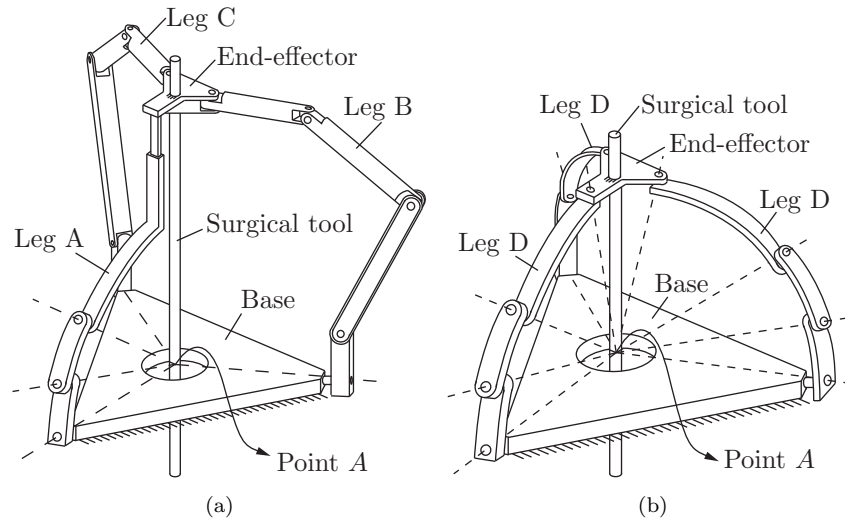

Figure 2.26: Surgical manipulator.
Exercise 2.17 Figure 2.26 shows a parallel robot used for surgical applications. As shown in Figure 2.26(a), leg A is an RRRP chain, while legs B and C are RRRUR chains. A surgical tool is rigidly attached to the end-effector.
- Use Grübler's formula to find the number of degrees of freedom of the mechanism in Figure 2.26(a).
- Now suppose that the surgical tool must always pass through point A in Figure 2.26(a). How many degrees of freedom does the manipulator have?
- Legs A, B, and C are now replaced by three identical RRRR legs as shown in Figure 2.26(b). Furthermore, the axes of all R joints pass through point A. Use Grübler's formula to derive the number of degrees of freedom of this mechanism.